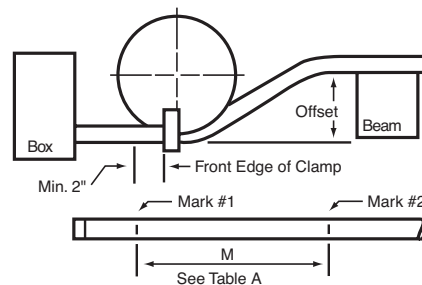

**Figure 11. Unload Conduit**
2. Move the roller housing against the frame stop. See Figure 11. The upper urethane roller must be on the outside (toward frame handle) of the roller housing. See Figure 7. If it's not, pull the ring pin. Lift the roller support arm, swing it over the roller housing, lower the handle into the bracket and insert the ring pin.
9. Grasp the upper urethane roller and move the support arm clockwise until the rollers move away from the conduit. See Figure 11. Push the roller housing against the frame stop. Remove bent conduit.